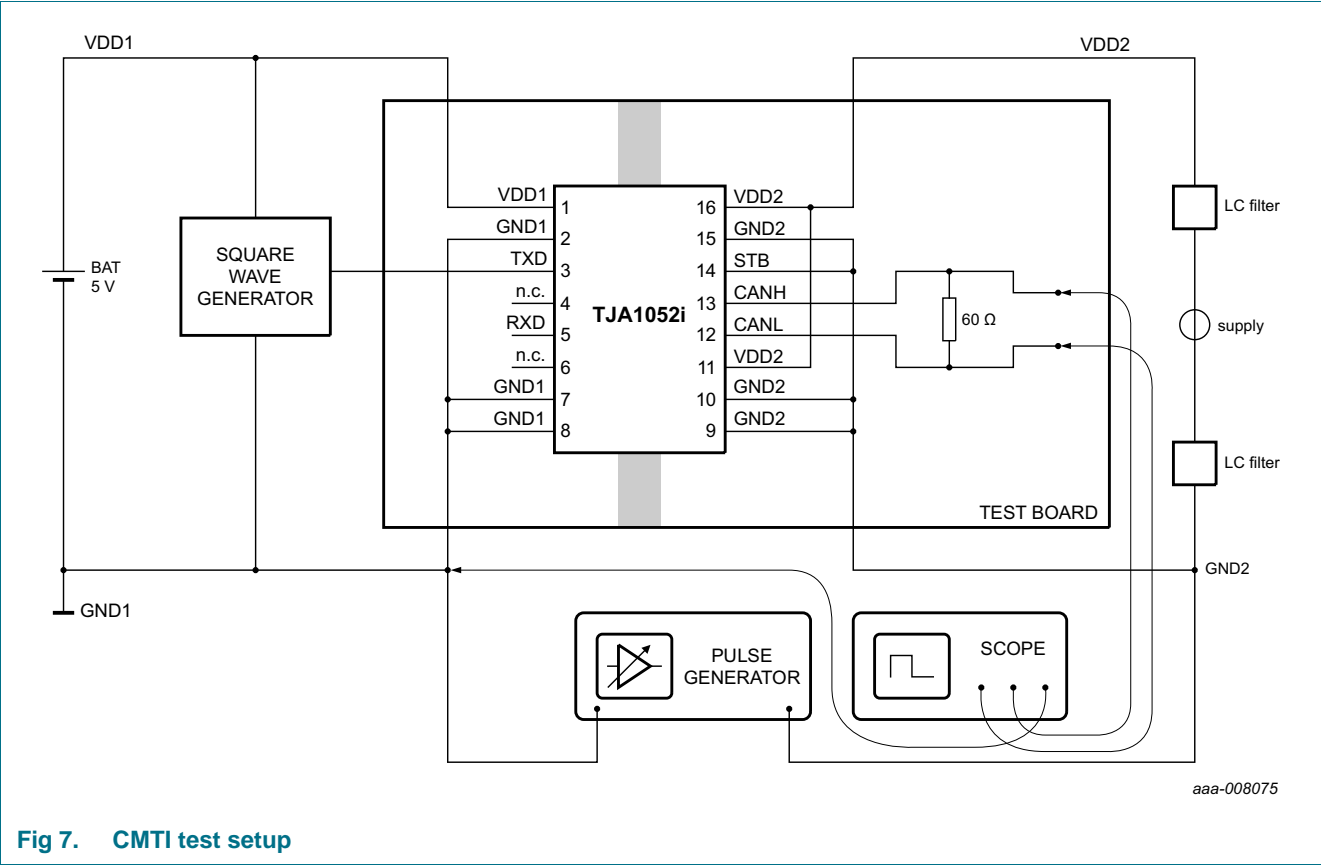

Fig 7. CMTI test setup
- [4] V_I is the input voltage on TXD. See Figure 7 for test setup.